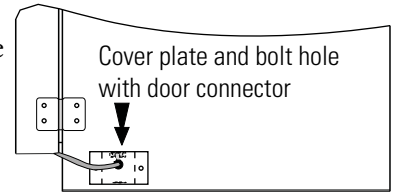

Figure 5-3. Cover Connector
1. Locate the small cover plate securing the door cord (Figure 5-3). Remove the screws from the plate and disconnect the door cord from the connector behind the plate.
See Figure 5-3.